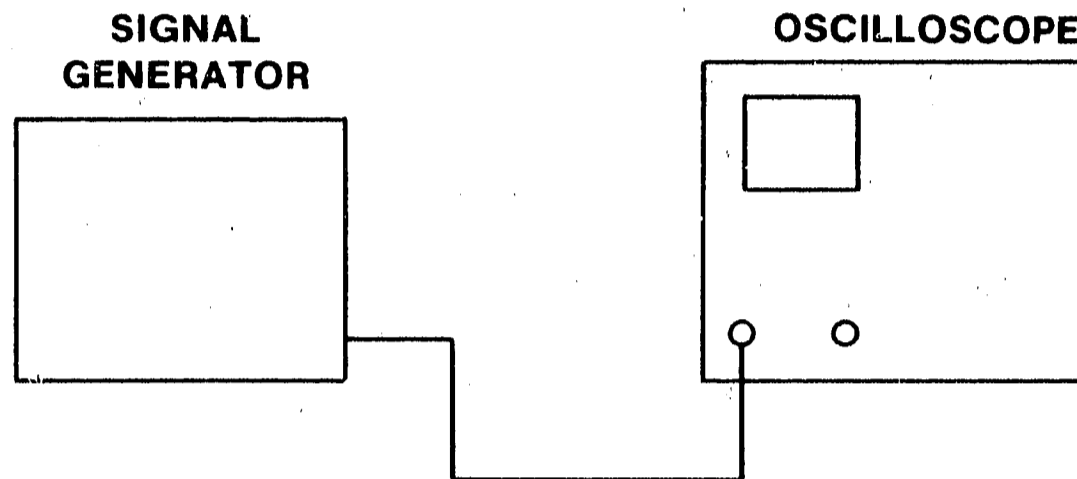

Figure 4-3. Internal Triggering Test Setup
- a. Connect equipment as shown in figure 4-3.